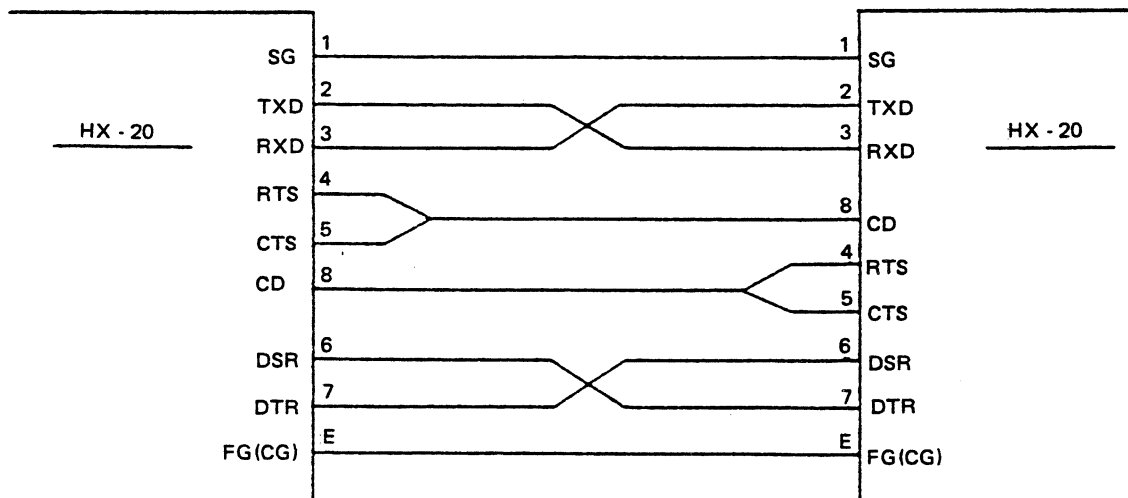

Fig. 3-6 Data Transfer Between Two HX-20 Units
- (1) The DSR and DTR terminals are cross-connected as shown in Fig. 3-6 to turn on the DSR terminal of the receiving HX-20 by the DTR signal of the transmitting HX-20.
- (2) The RTS and CTS terminals are connected together within each HX-20 unit, so that a CTS signal is automatically detected upon output of an RTS signal. When the transmitting HX-20 sends this signal to the CD line, the receiving HX-20 enters the receiving state.